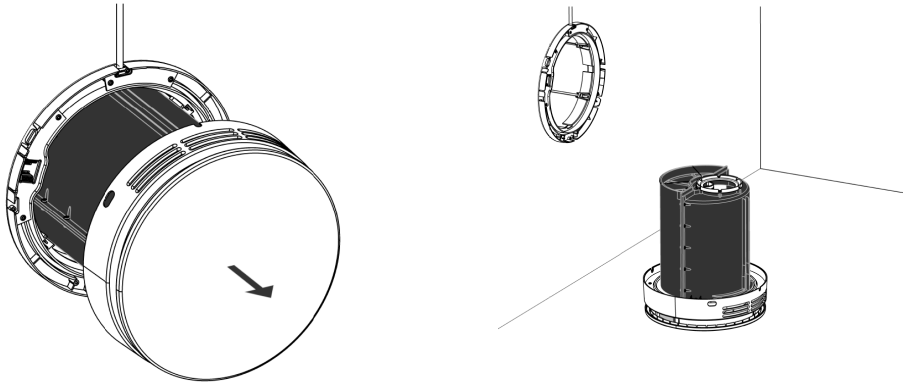

Figure 15 - Take the ventilation system out and place it down on the internal cover
3. Carefully pull the ventilation unit out of the wall and place it with the internal cover down on a level surface, e.g., a table or the floor, see Figure 15.